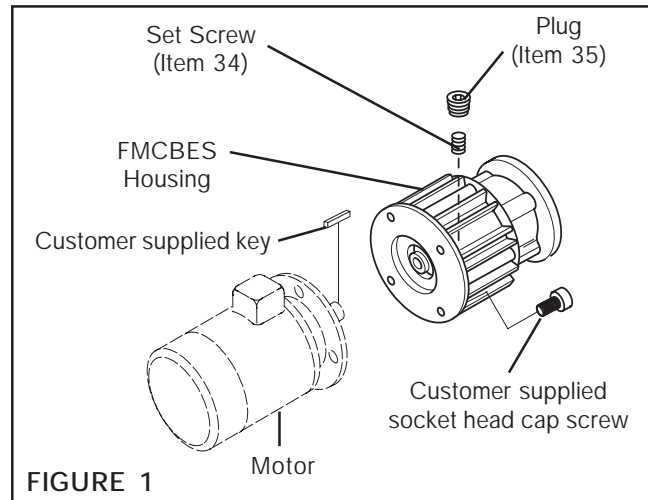

FIGURE 1
1. Insert the customer supplied key into the motor shaft keyway (See Figure 1).
2. Slide the FMCBES onto the motor shaft, then secure it to the motor using customer supplied socket head cap screws and lock washers (See Figure 1).
4. Tighten the Set Screw (Item 34) and then install the Plug (Item 35) (See Figure 1).